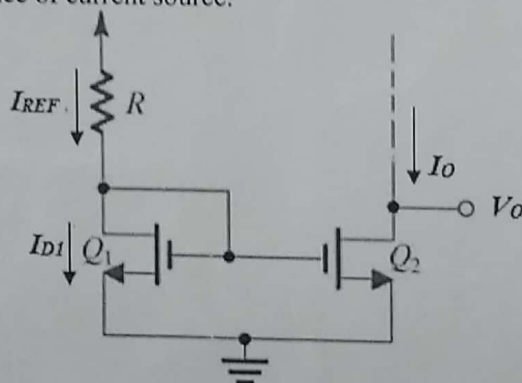

Fig.1
- Q.2 For $V_{dd} = 1.8V$ and using $I_{REF} = 50\mu A$. It is required to design the circuit of Fig.1 to obtain an output current whose nominal value is $50\mu A$. Find R if Q_1 and Q_2 are matched with channel lengths of $0.5\mu m$, channel widths of $5\mu m$, $V_t = 0.5V$ and $k_n' = 250\mu A/V^2$. What is the lowest possible value of V_o ? Assuming that for this process technology the early voltage $V_A' = 20V/\mu m$, find the output resistance of current source.